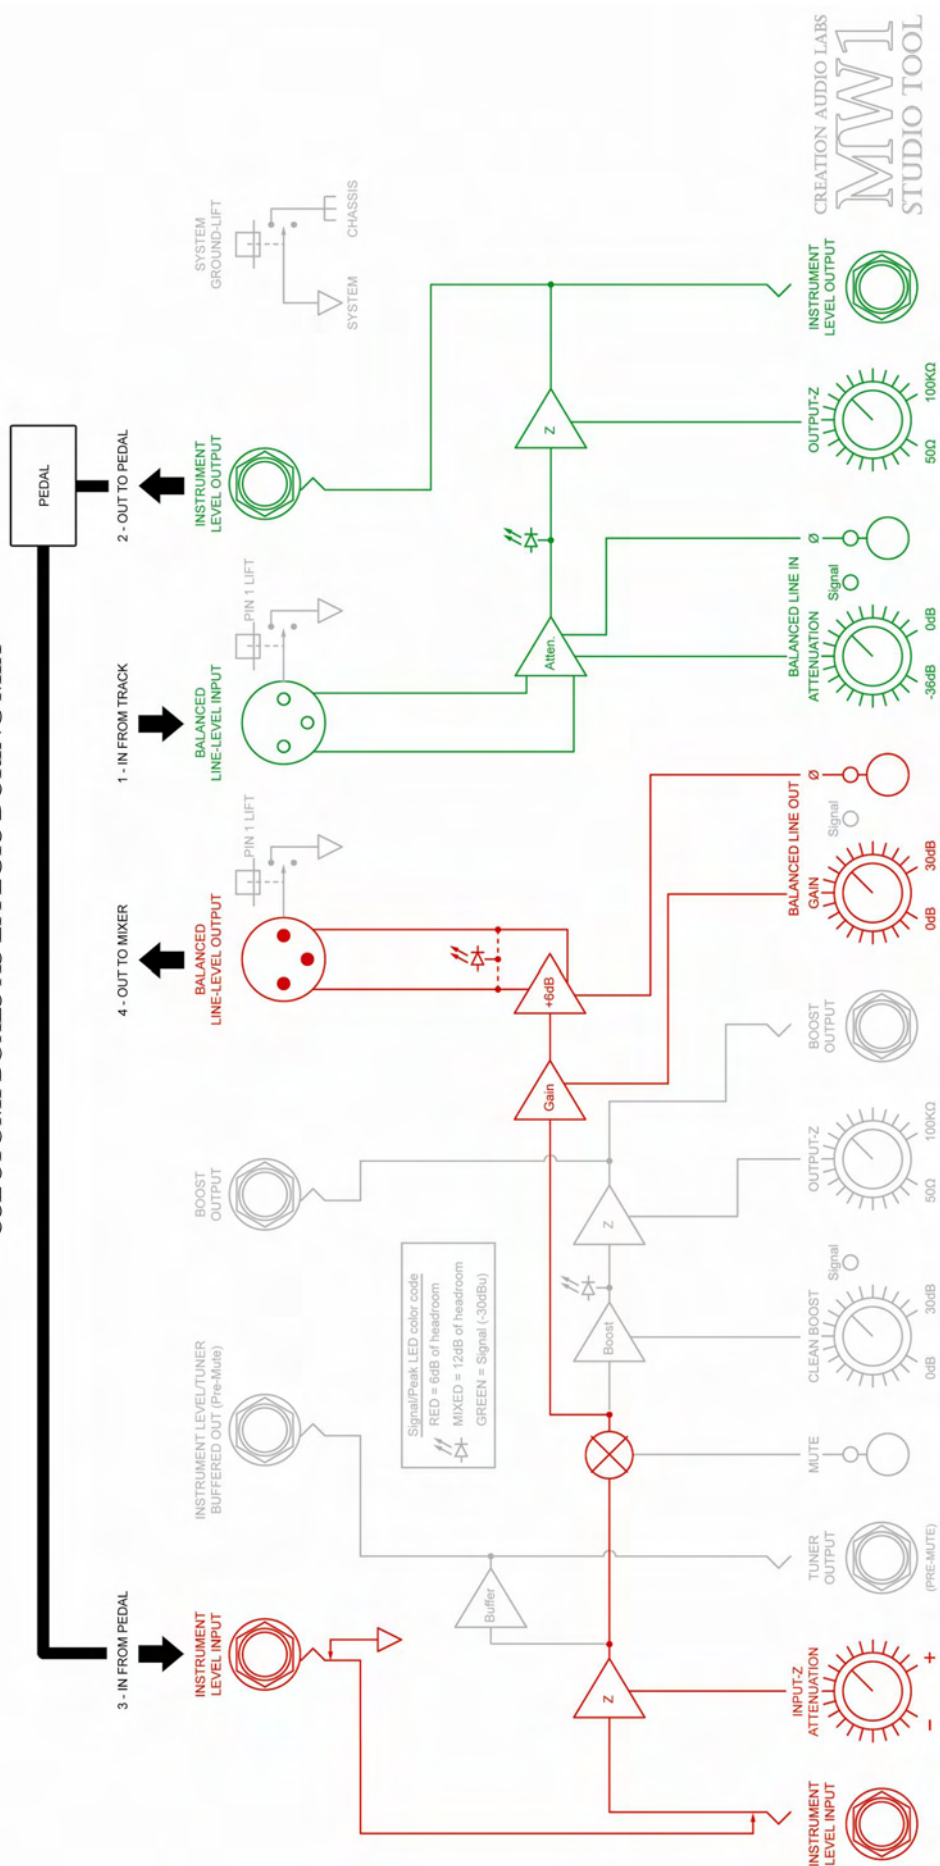

FIG. 7
- Instrument level effects such as guitar pedals can be used on pre-recorded tracks during mix. (FIG. 7)
- **INSTRUMENT LEVEL INPUT** ¼” input for introducing signal to the Studio Tool from low level sources such as guitars, bass, keyboards, etc. Additionally, when the Studio Tool is being used to place a low level device such as a guitar flanger pedal across a previously recorded track the **output of the pedal** would be connected to this input on the Studio Tool. (see fig.7 of the Quick Reference Sheet). This input is unbalanced.